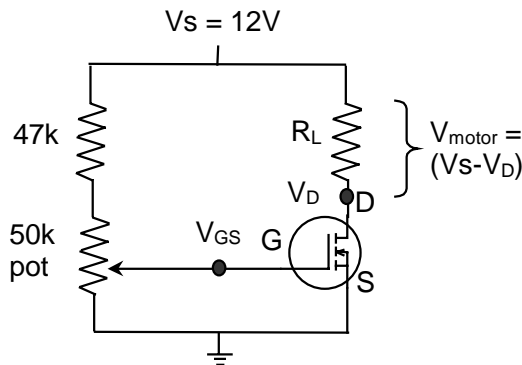

Figure 4 – MOSFET voltage control circuit
Construct the circuit shown in Figure 4 (make load resistance $R_L = 100\Omega$ at 2 Watt rating). In this circuit, we directly control the MOSFET gate voltage (V_G) by turning the potentiometer (recall that V_{GS} will vary linearly with the pot angle), which ultimately controls the motor voltage (V_{motor}). In this section, we will study how V_{motor} varies as we vary V_{GS} .
- Q6** Consider the circuit in Figure 4 and assume that R_L is a motor. Explain how turning the pot (which we control) ultimately controls motor voltage (V_{motor}). Include in your explanation the role of the pot and the MOSFET.